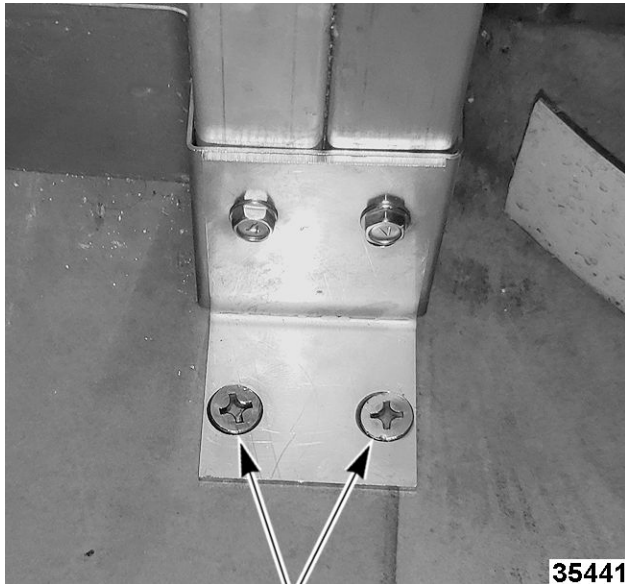

Fig. 36
15. Use screws from floor anchor hardware package(s) to secure retainers to bakery floor (Fig. 36).